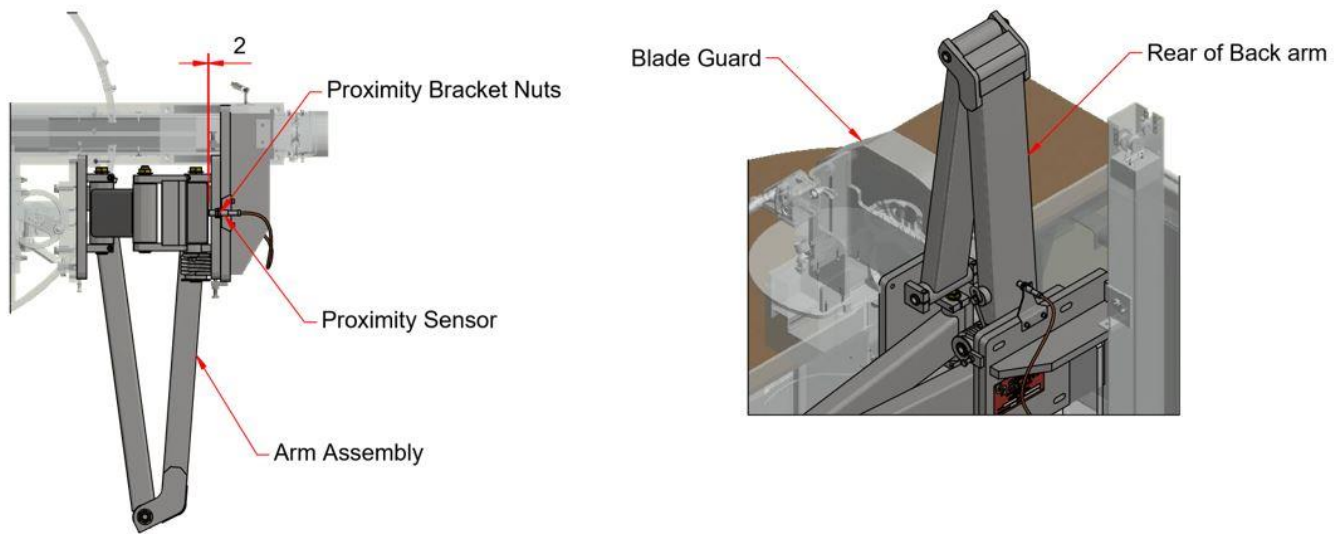

Figure 20, Arm Assembly proximity sensor configuration
- Ensure that the proximity sensor is located in the middle of the back arm as shown in Figure 20.